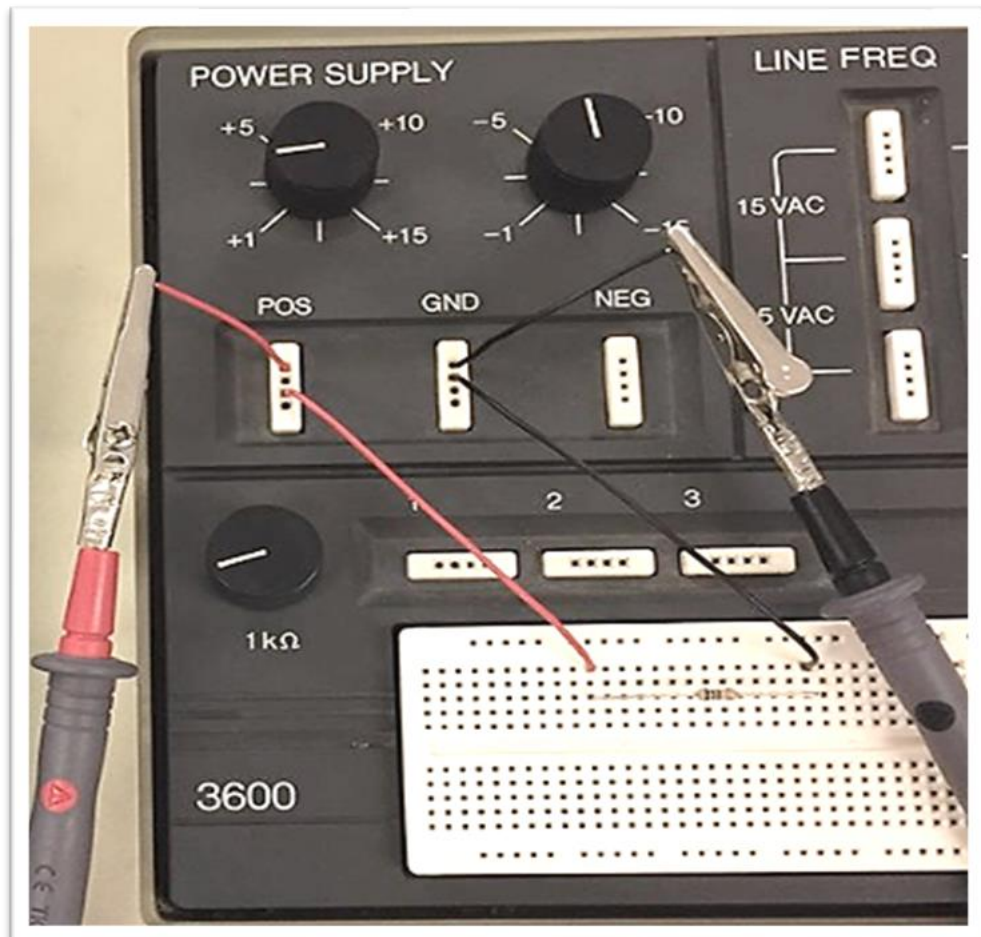

Fig. 3: How to measure V_s
- 2- Mount the 620Ω resistor on the breadboard, then connect its leads to the power supply terminals (**POS** and **GND**) using wires, as shown in **Fig. 3**.
- 3- Connect the multimeter across the **POS** and **GND** terminals and set the value of the source voltage V_s according to **Table I (Fig. 3)**.